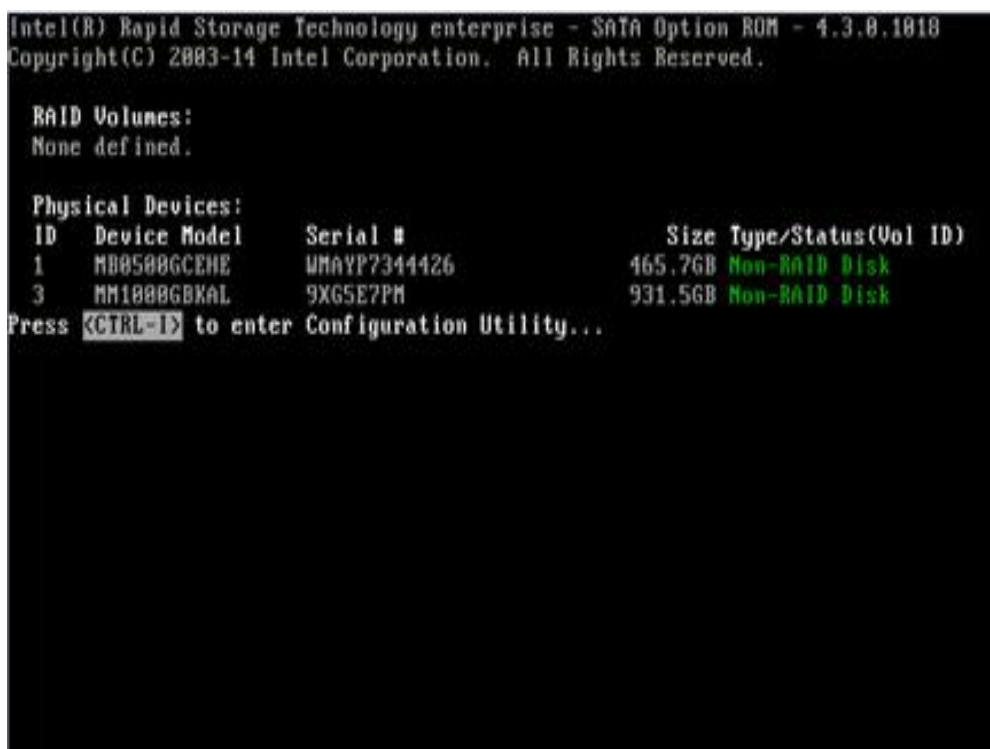

Fig. 6.15
- Power up or restart the server. After the interface shown in Fig. 6.15 appears during BIOS startup, press Ctrl+I.